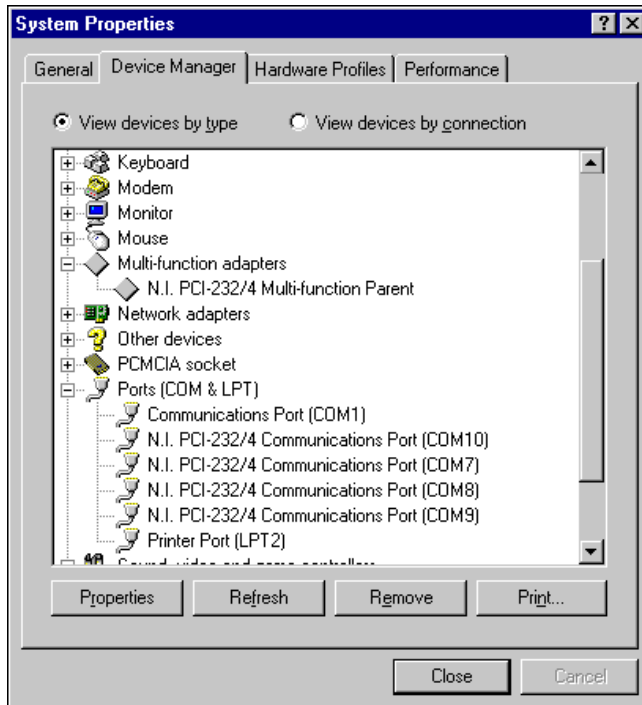

Figure B-1. Selecting an Interface to Uninstall
4. From the **Multi-function adapters** list, select the National Instruments interface that you want to uninstall, as shown in Figure B-1.